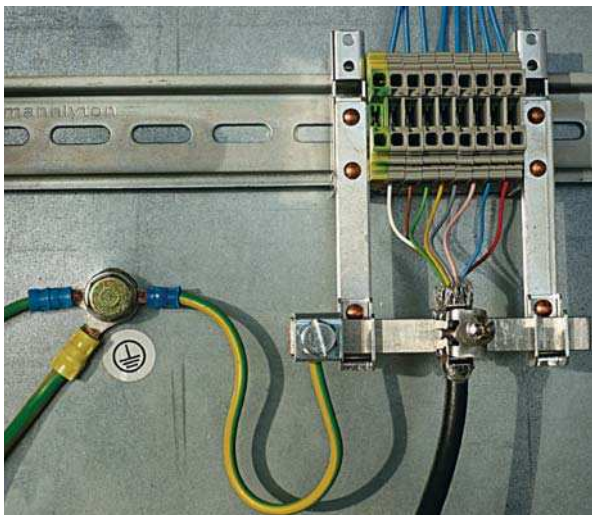

Figure 7.2: Connecting the cable shielding in the switch cabinet
- ✚ Clamp the shield in the switch cabinet flat to FE (see figure 7.2). Use special shielding terminals (e.g., Wago, Weidmüller, ...).